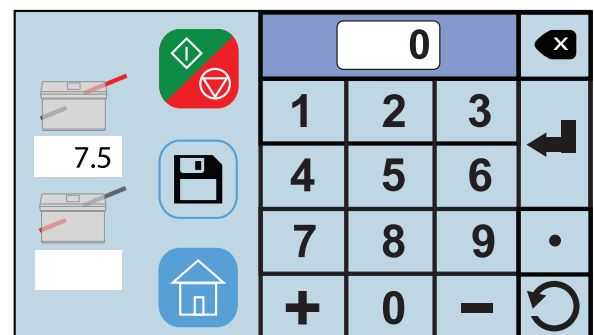

Fig. 12
The white box under the icon will show the measurement entered (Fig. 12).
2. Select the lower fold plate icon  (Fig. 12) to set the fold stop position for the second fold (the icon will flash dark gray when selected). Using the touch pad, key in the measurement for the second fold stop position. (**Note:** the minimum position is 1.49" and the max. position is 8.40").